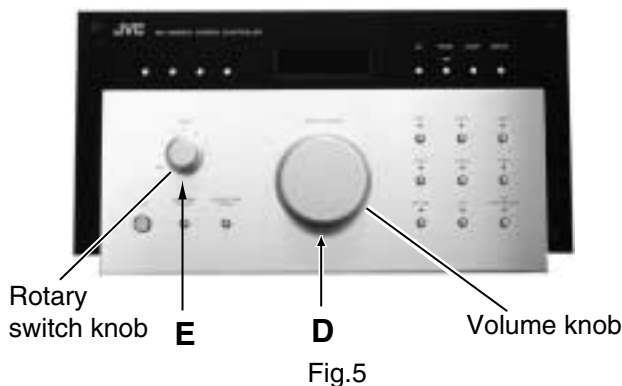

Fig.5
■ Removing the main board assembly (See Fig.5 to 7)